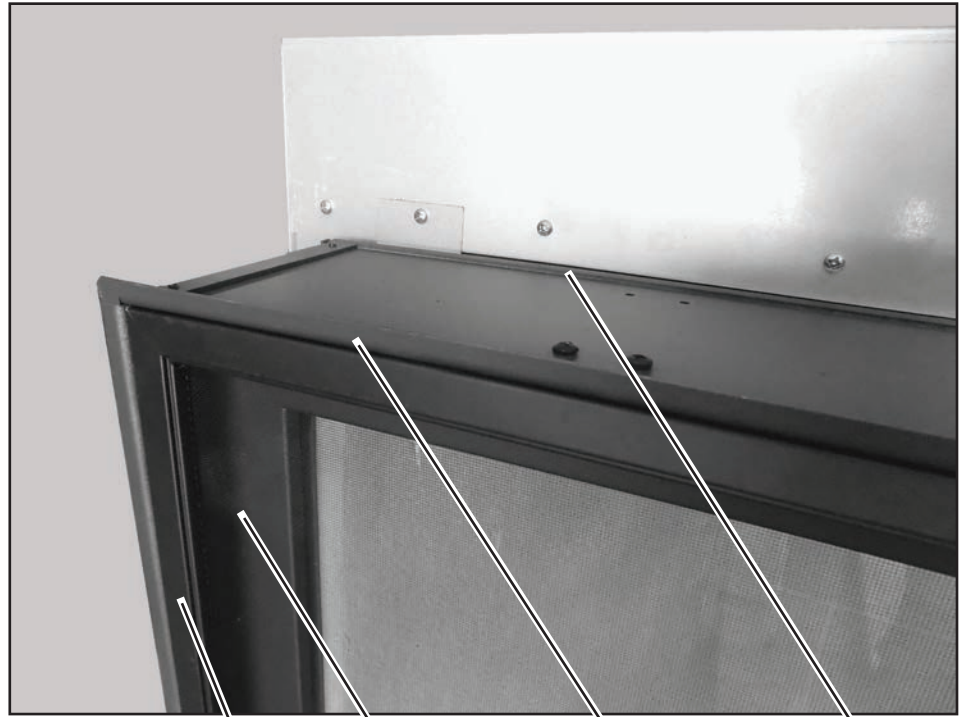

Figure 17:
3. Remove the door trim (Figure 17).